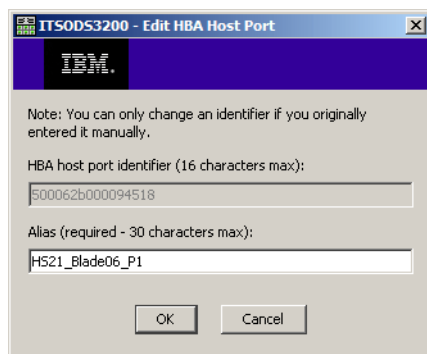

Figure 20-28 SAS Expansion Card - Host port alias
- Click **Edit** to specify the alias of the selected host port of the SAS Expansion Card (in our example, we use HS21\_Blade06\_P1) and click **OK**, as shown in Figure 20-28.